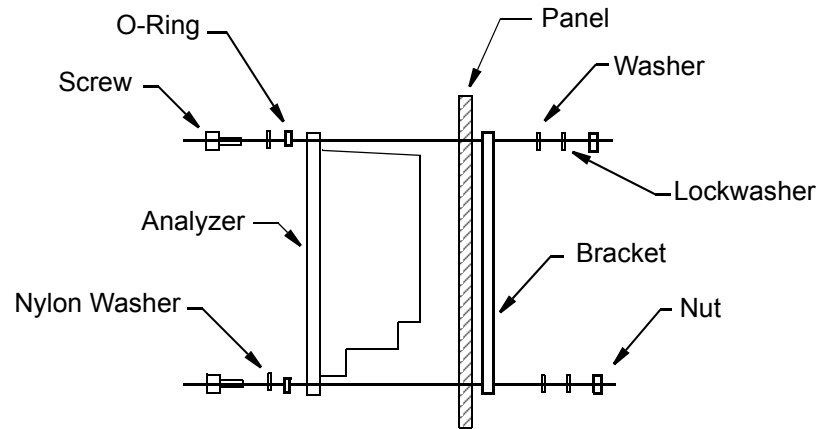

Figure 4. Panel Mounting
Panel Mounting: The basic housing meets NEMA 1 requirements for general purpose, indoor applications. However, when properly installed in a panel per Figure 4 on page 23, the front surface provides the environmental and corrosion resistant protection of NEMA Type 4X, CSA Enclosure 4X, and IEC IP65.
Panel mounting of the analyzer is shown in Figure 4. For panel cutout size, space requirements, and other dimensional data, see DP 611-164. Place the analyzer into the panel cutout from the front side and fasten it to the panel with appropriate hardware via the four holes in the corners of the analyzer bezel. The basic enclosure of the panel-mounted analyzer meets NEMA 1 requirements for general purpose, indoor applications. However, when mounted in a panel and gasketed in place with the supplied gasket, the front surface provides the environmental and corrosion resistant protection of NEMA Type 4X, CSA encl. 4X, and IEC IP65.
3. To meet the requirements of NEMA 4X, CSA encl. 4X, and IEC IP65, the panel cutout dimensions must be held to tolerances shown in DP 611-164 and the analyzer must be mounted as shown in Figure 4.